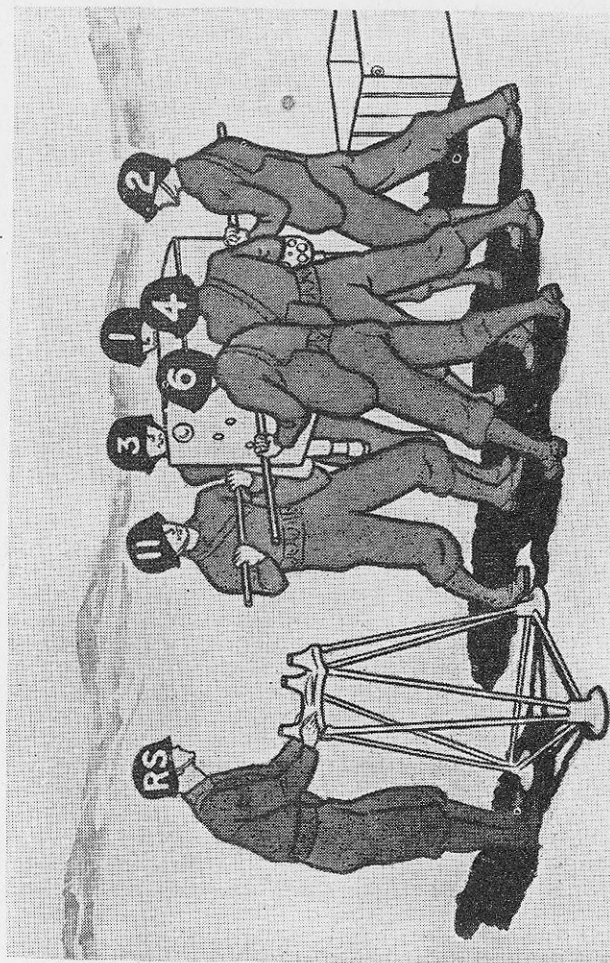

FIGURE 17.—READY—RAISE. At the command, the range section assisted by 6 and 11 carry the director to the tripod and emplace it.
- 1, 2, 3, and 4, assisted by 6 and 11 as required, carry director to tripod and prepare to lift and emplace it. (See fig. 17.)